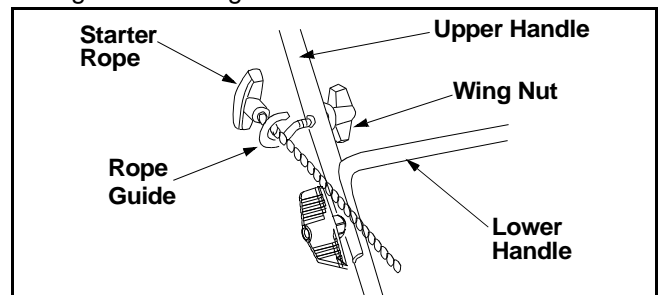

Figure 4
- If not already, move rope guide to the first hole above the lower handle on right side. Secure the rope guide to handle with wing nut, but do not tighten. See Figure 4.